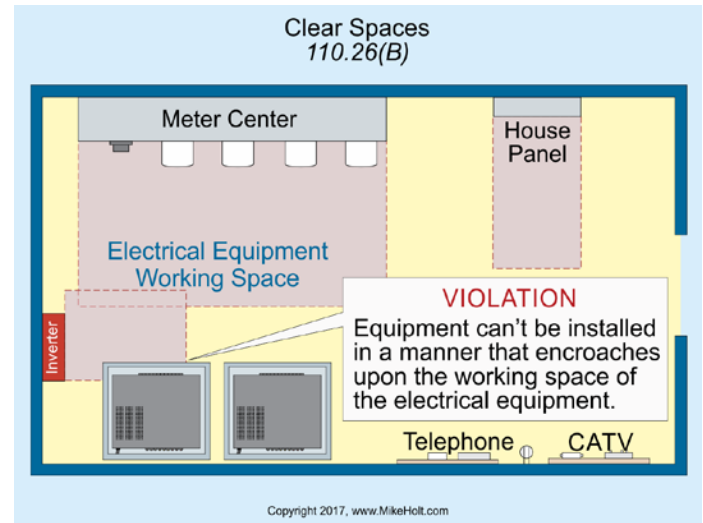

Figure 110-38
- Signaling and communications equipment aren't permitted to be installed in a manner that encroaches on the working space of the electrical equipment. Figure 110-38